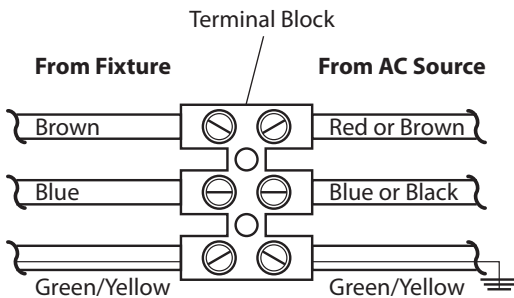

Figure 4
1. Connect the house wires to the terminal block according to diagram (see Figure 4). Make sure all screws on terminal block are tightened securely.